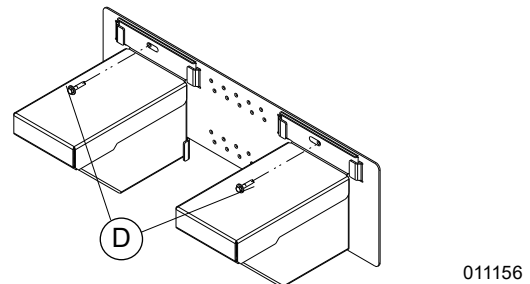

Figure 4-5. Install Top Fasteners Through Stands and Foot Bracket
5. See **Figure 4-5**. Use flat washers and fasteners (D) to secure top of foot bracket and stands.